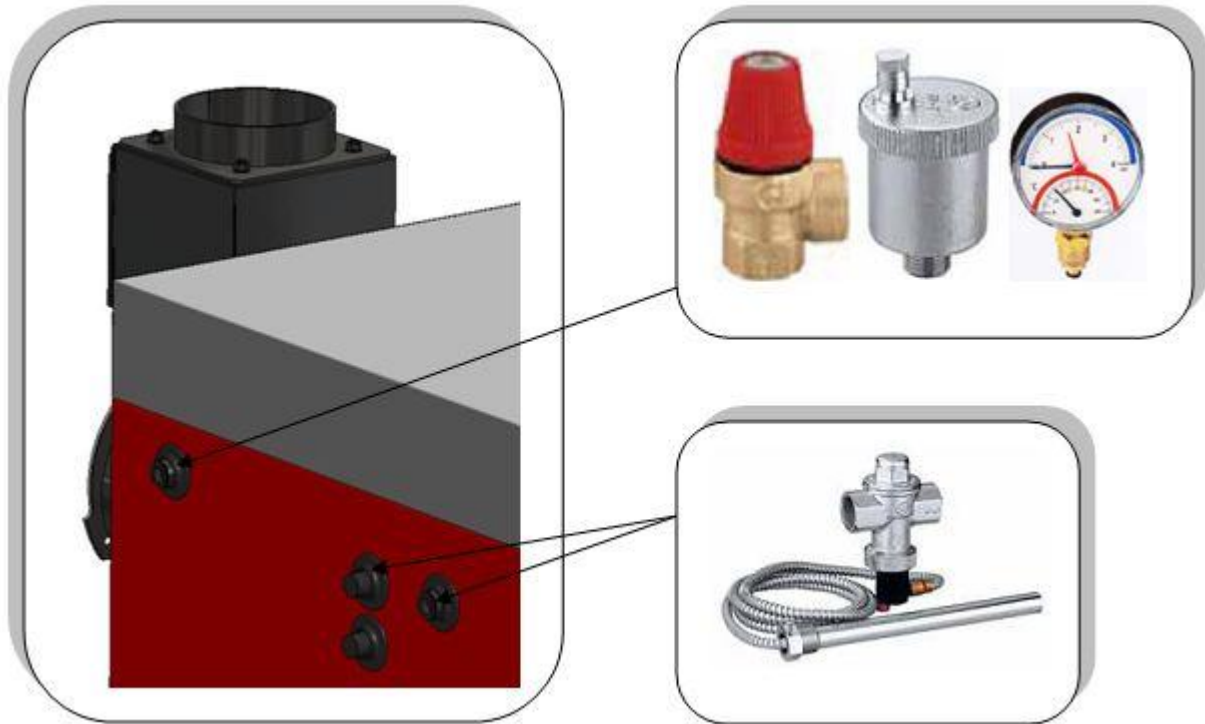

Figure 8 . Installation of safety elements
- Place the installation is shown in the Assembly diagram of boiler onto the installation in **Figure 8**. The boiler is supplied with a copper coil so it is necessary to use the VTO with trhe exchanger, as shown in **Figure 8**. Cold sanitary water is brought to the VTO. When the VTO-probe has the information that the temperature is over 95 degrees the VTO is opened and water flows through copper coil. After some time the temperature of water in boiler returns to its normal state.